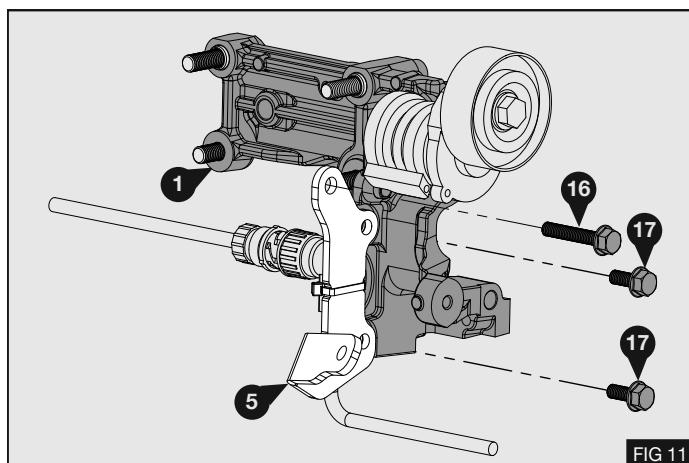

FIG 11
- Secure the support plate (5) to the mount bracket (1) using 2x bolts (17). Insert bolt (16) through the support plate (5) into the timing case - Fig 11
Torque bolts (16) and (17) to 29Nm / 21.4lb ft. – Fig 11